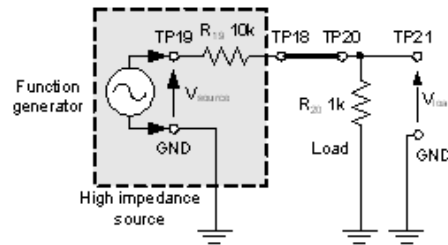

Figure 5 – Setup to Study the Loading Effect
9. Connect TP18 to TP20 using the jumper cable. This connects the high impedance source to the load circuit (R20), as shown in Figure 5.